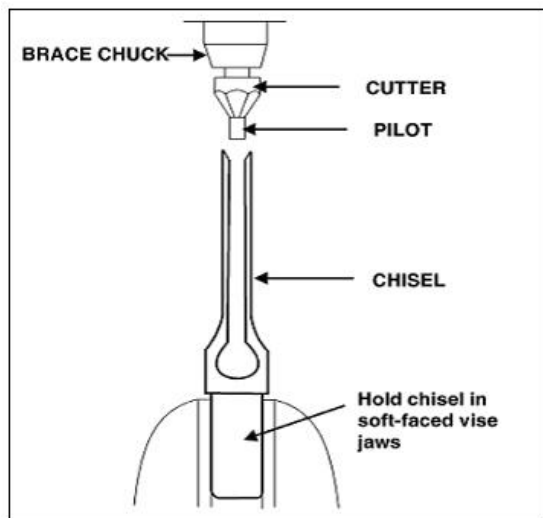

Fig 14
- Sharpen the chisel with a mortise and tenon chisel with the correct size guide. (Pilot size will vary depending on the size of the chisel). Two to three turns of the cutter in the carpenter's bracket chuck are enough to sharpen the chisel, as shown in Figure 14.